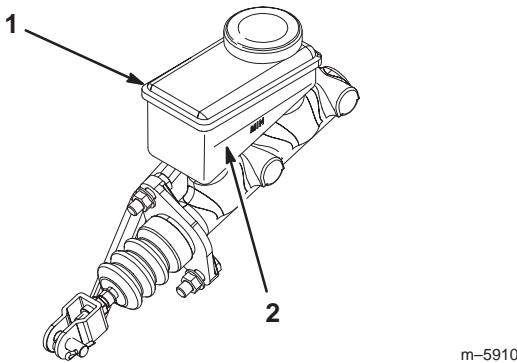

Figure 23
2. Look at the side of the reservoir. The level should be above the Minimum line (Fig. 23). If the fluid level is low, clean the area around the cap, remove the cap, and fill the reservoir to above the Minimum line. **Do not overfill.**